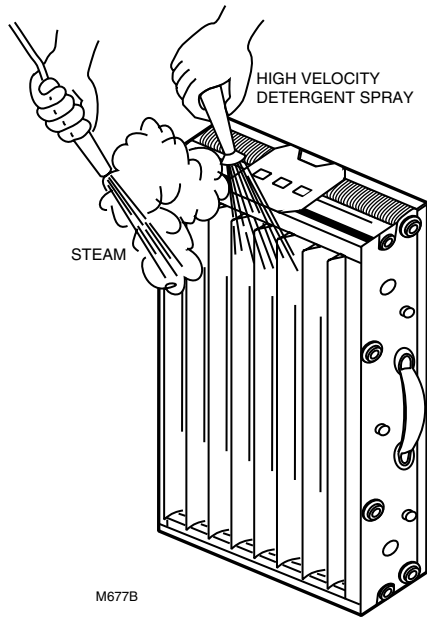

Fig. 21. Washing cells at car wash.
Use the hand sprayer at a coin-operated do-it-yourself car wash to clean the cells. Hold the nozzle at least two feet away from the unit to avoid damage (such as broken ionizer wires or bent collector plates) from the high pressure stream of water. See Fig. 21. Follow the same sequence of wash and rinse as recommended for cars. However, do not wax the cells. Be sure to rinse until the water draining from the cells no longer feels slippery.
1. Hook the eyelet on one end of the wire over the spring connector on one end of the cell. See Fig. 21. Be careful to avoid damaging the spring connector or other parts of the cell.